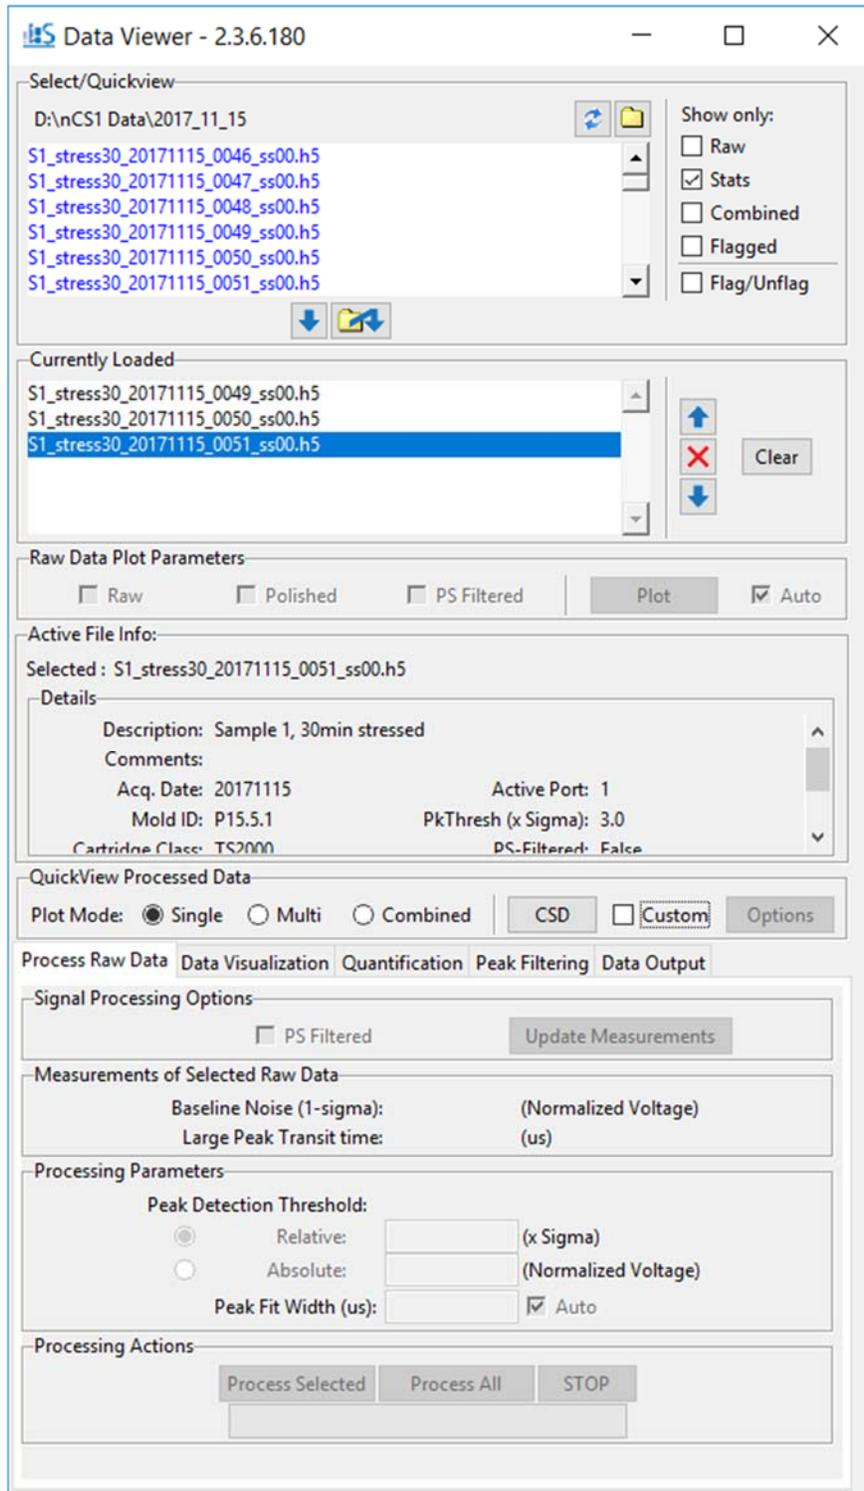

Figure 14. Overview of the Spectradyne Viewer software user interface.
- In the Select/Quickview frame (Figure 14), use the folder icon to the right of the current path to navigate to the location of the raw data.